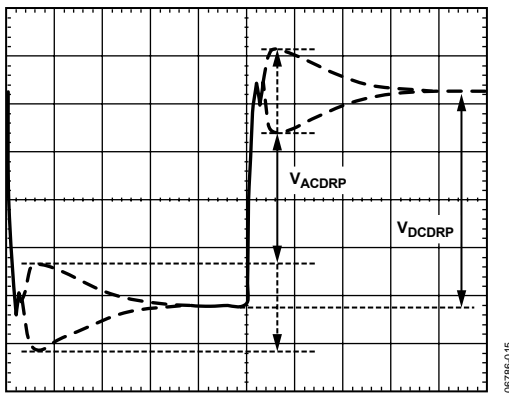

Figure 17. AC Load Line Waveform
14. Measure the output waveform (use dc offset on scope to see the waveform). Try to use a vertical scale of 100 mV/div or finer. This waveform should look similar to Figure 17.
15. Use the horizontal cursors to measure V_{ACDRP} and V_{DCDRP} , as shown in Figure 17. Do not measure the undershoot or overshoot that happens immediately after this step.